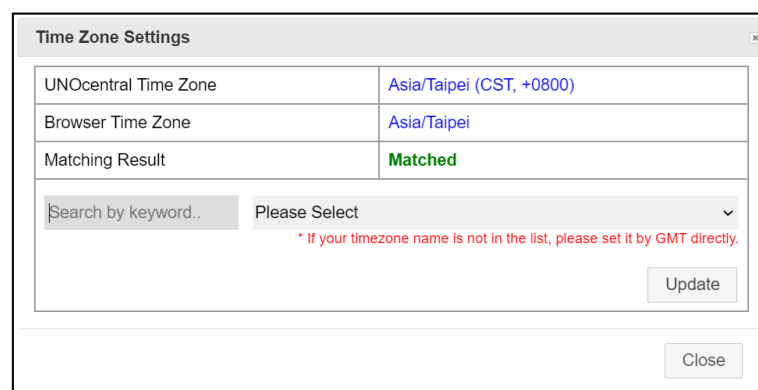

Figure 8 Time Zone Setting Window
- **Time Zone Settings**: Adjust the operating time zone of UNOCentral. This setting mainly affects the functions of 2.1.1.7 Schedule Settings and 2.1.2.4 Data and Chart described in subsequent chapters, please set it correctly. As shown in Figure 8, the current system time zone of UNOCentral and the time zone of the current browser (such as Chrome) will be listed here, as well as matching settings results. Finally, the user, operator, or professional will decide the setting.